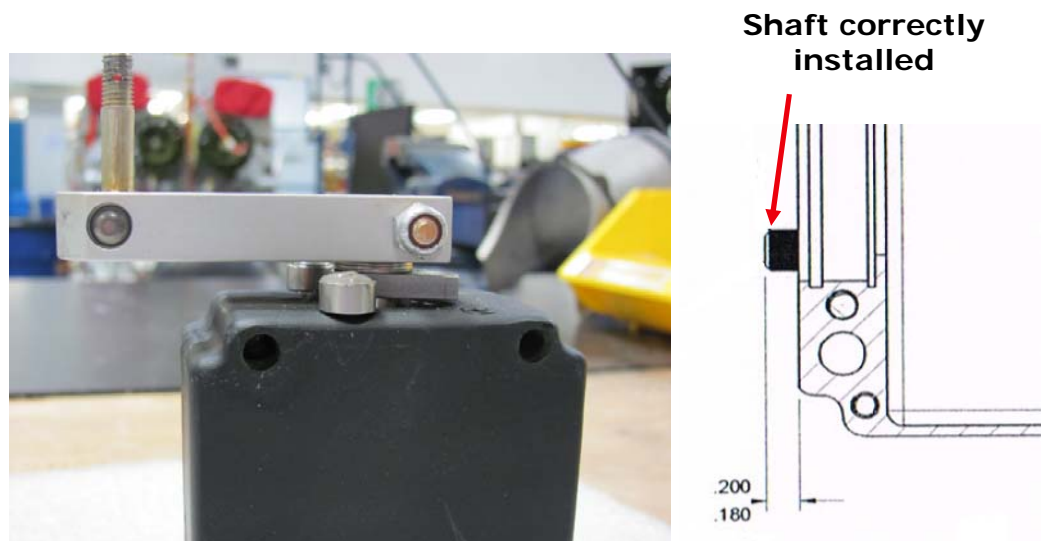

Figure 2. Magnetic brake assembly with stops correctly installed.
8. The shaft should protrude from the housing surface between 0.180 inch (4.57 mm) and 0.200 inch (5.08 mm) (Figure 2).